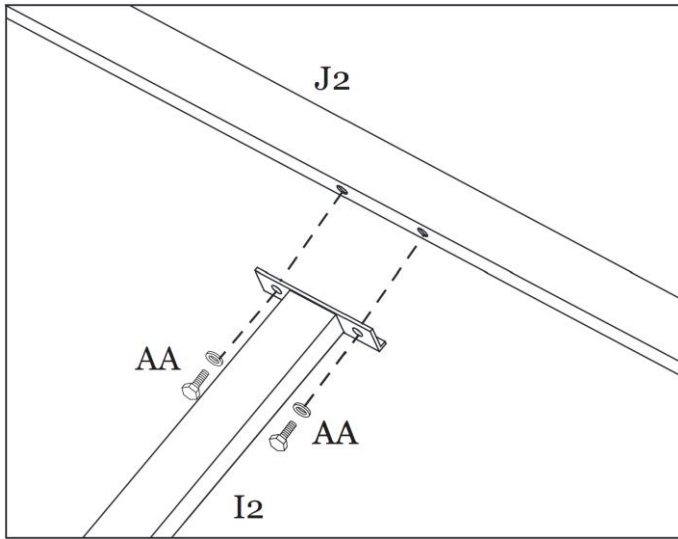
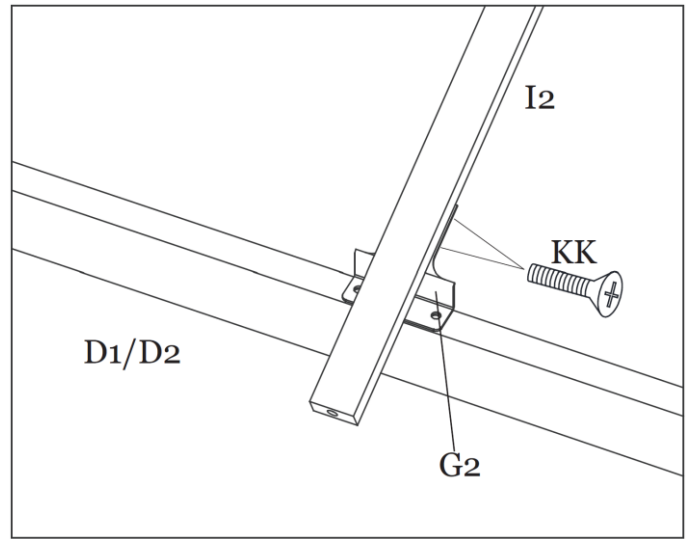

Figure 9-1
Figure 9-2
Step 9: Attach the Main Roof Vertical Center Support (I2) to the Long Connector (J2) using Bolts/Washers (AA). See Figure 9-1. Attach the Main Roof Vertical Center Support (I2) to the Top Lintel Bracket (G2) using Bolts (KK). **Tighten all Bolts.** See Figure 9-2 and 9-3. Repeat for remaining Main Roof Vertical Center Supports (I2)